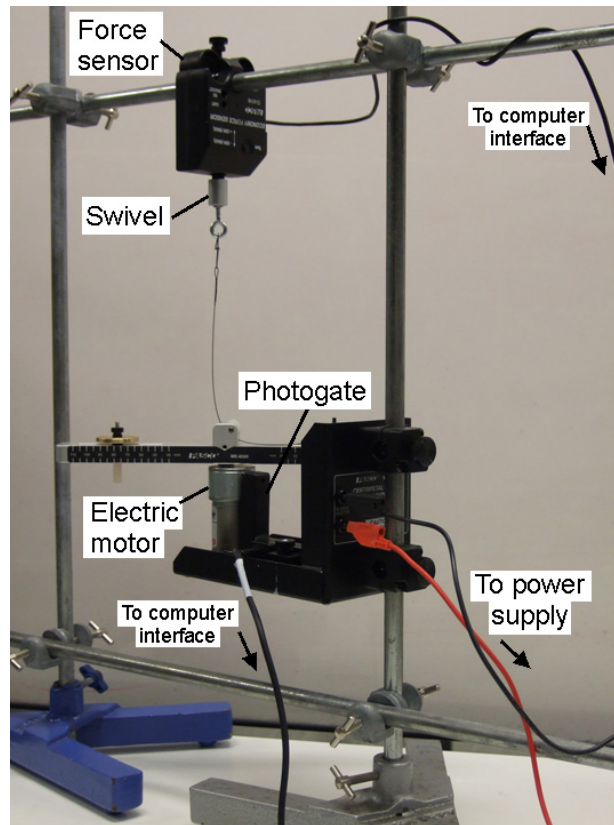

Figure 2 Initial experimental setup
1. Mount the Centripetal Force apparatus to the rod of the stand, as shown in Fig. 2.